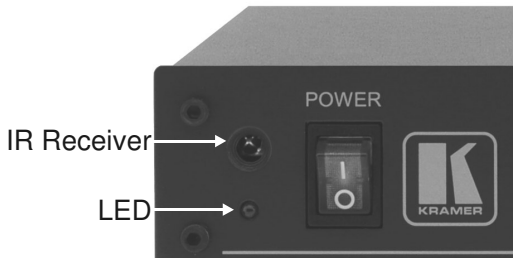
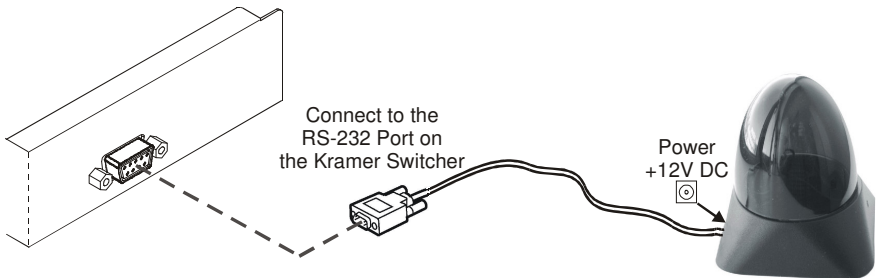

Figure 2: Built-in Remote Receiver
Figure 3: Connecting the External Remote Receiver
| Figure 2: Built-in Remote Receiver | 5 |
- Transmits to a compatible remote receiver, either built-in (see Figure 2) or external (see Figure 3). The transmitter includes non-volatile memory that retains the last setting, even after the power supply is interrupted
Most Kramer switchers¹ include a built-in front panel remote receiver that is located to the left of the power switch, as Figure 2 illustrates:
When your RS-232 controlled Kramer switcher has no built-in front panel remote receiver, you can use the external remote receiver¹ (see Figure 3). The external remote receiver includes an attached RS-232 cable with a 9-pin D-sub connector, and a 12V DC power socket.
To connect the external remote receiver, as the example in Figure 3 illustrates, do the following: